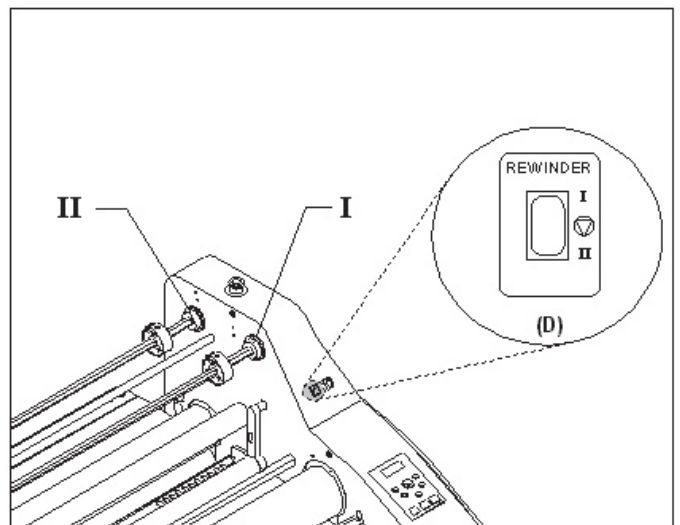

Fig 9
D. REWINDER SELECTION SWITCH: (Figure 9) This switch enables the operator to control the function of the upper rewind/ unwind shafts.